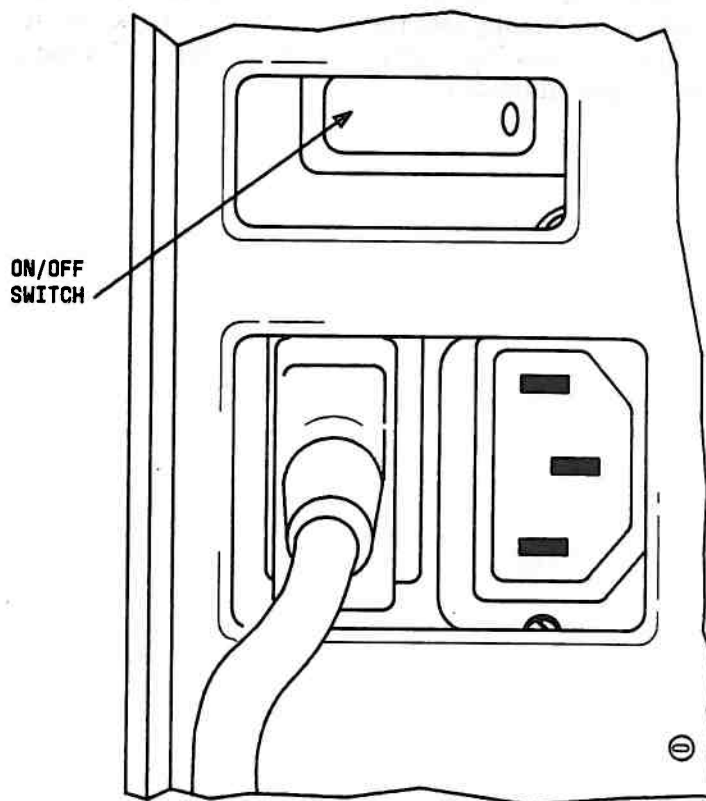

Figure 3-59. Power Inlet on the Rear Panel
7. Insert the female plug of the ac power cable into the power inlet on the back panel of the System Module (Figure 3-59).